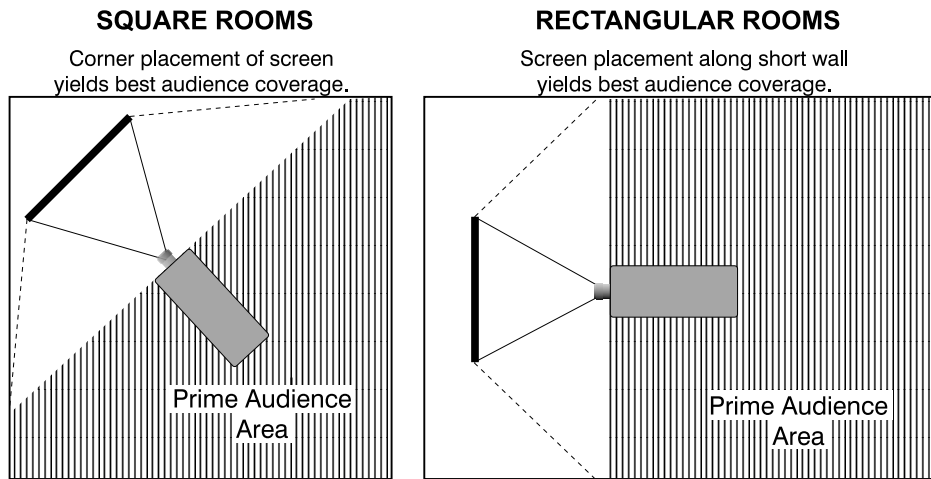

Figure 2.4. Screen Locations for Maximum Audience Coverage
- When laying out the projection room, consider positioning the projector and screen in a manner that will achieve maximum audience coverage and space efficiency. For example, placing the screen along the larger wall in a rectangular room will reduce audience coverage. Figure 2.4 shows two examples of how audience coverage is maximized.